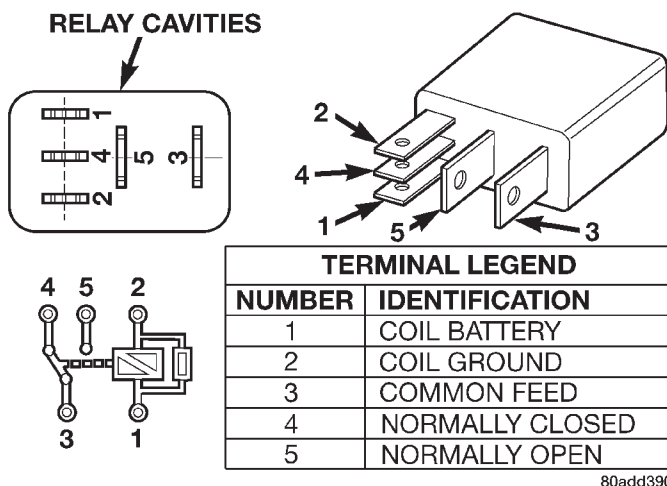

Fig. 13 Type-3 Relay
(15) If equipped with **type-3 relay** (Fig. 13), attach test leads from LCS adapter into PDC relay cavities number 3 and 5. For location of these cavities, refer to numbers stamped to bottom of relay (Fig. 13).